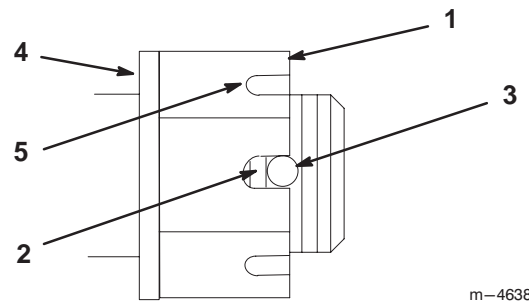

Figure 51
3. Torque slotted nut to 125 ft-lbs (169.5 N•m) (Fig. 51).
4. Check the distance from bottom of slot in nut to inside edge of hole. Two threads or less should be showing (Fig. 51).
5. If more than two threads are showing remove nut and install washer between hub and nut (Fig. 51).
6. Torque the slotted nut to 125 ft-lbs (169.5 N•m) (Fig. 51).
7. Tighten nut until the next set of slots line up with the hole in the shaft (Fig. 51).